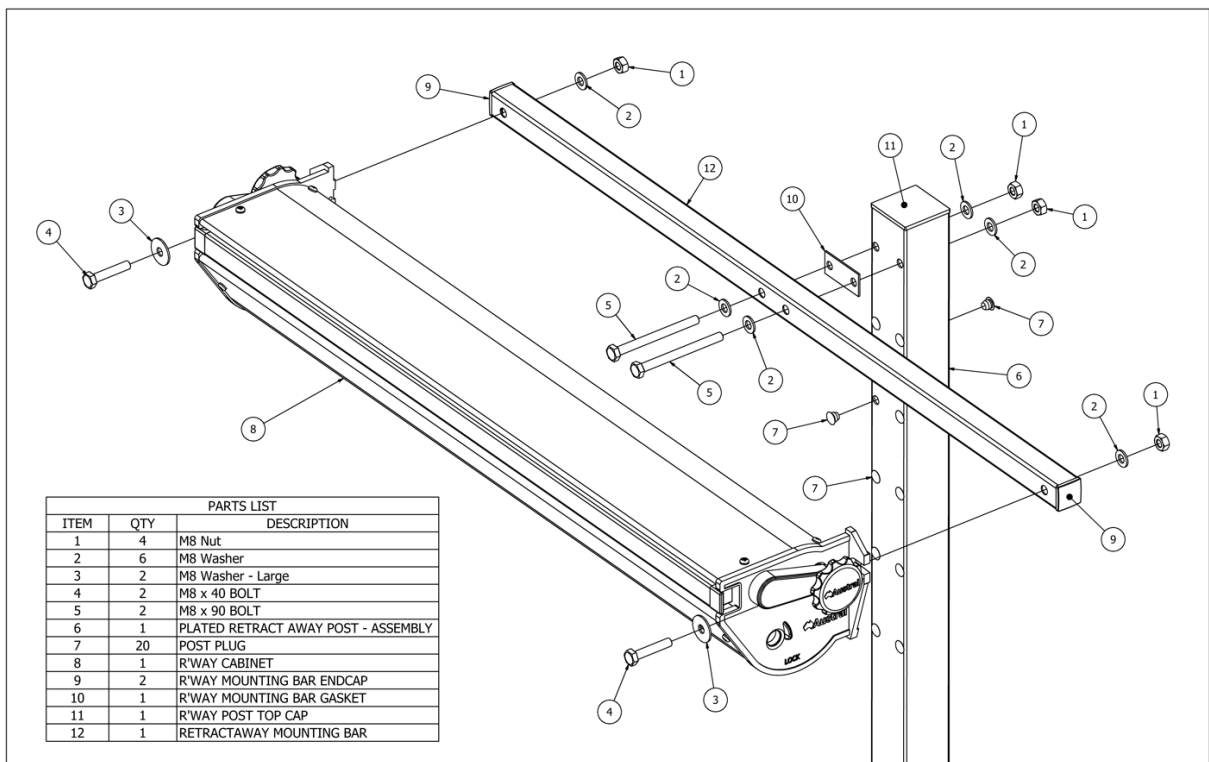

Fig 2. Cabinet installation to Post.
- Fit Cabinet (item 8) as shown in Fig 2. Be sure to fit the Mounting Bar (item 12) prior to fitting the Cabinet.